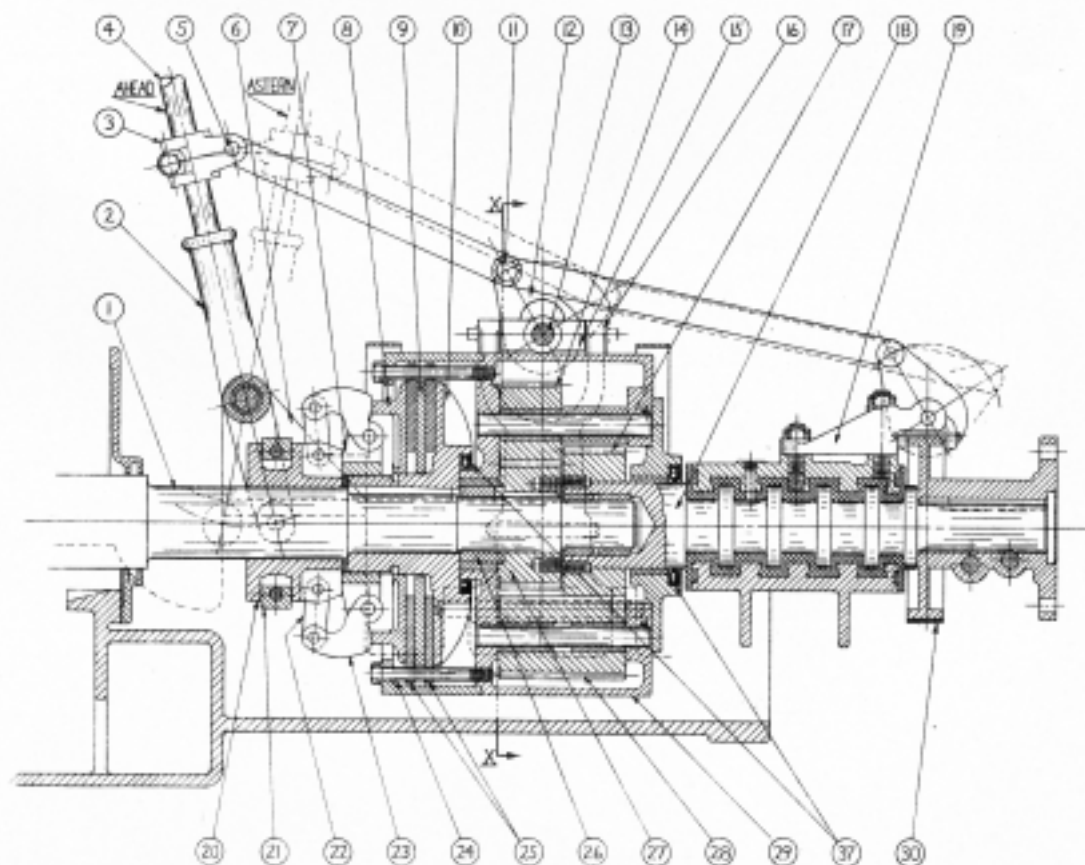
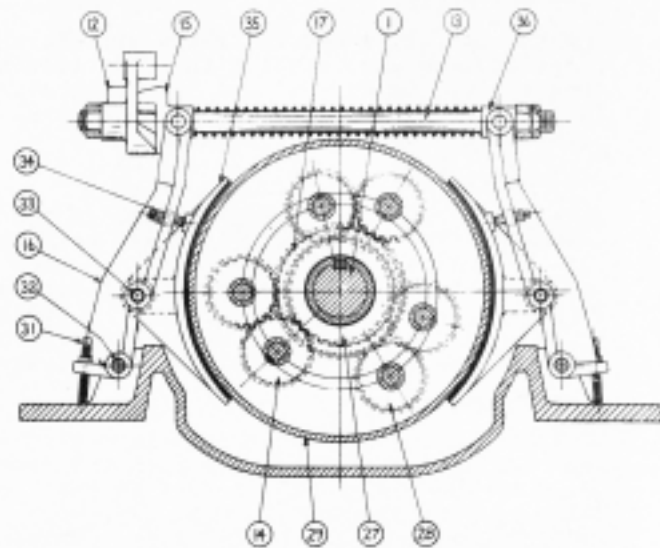
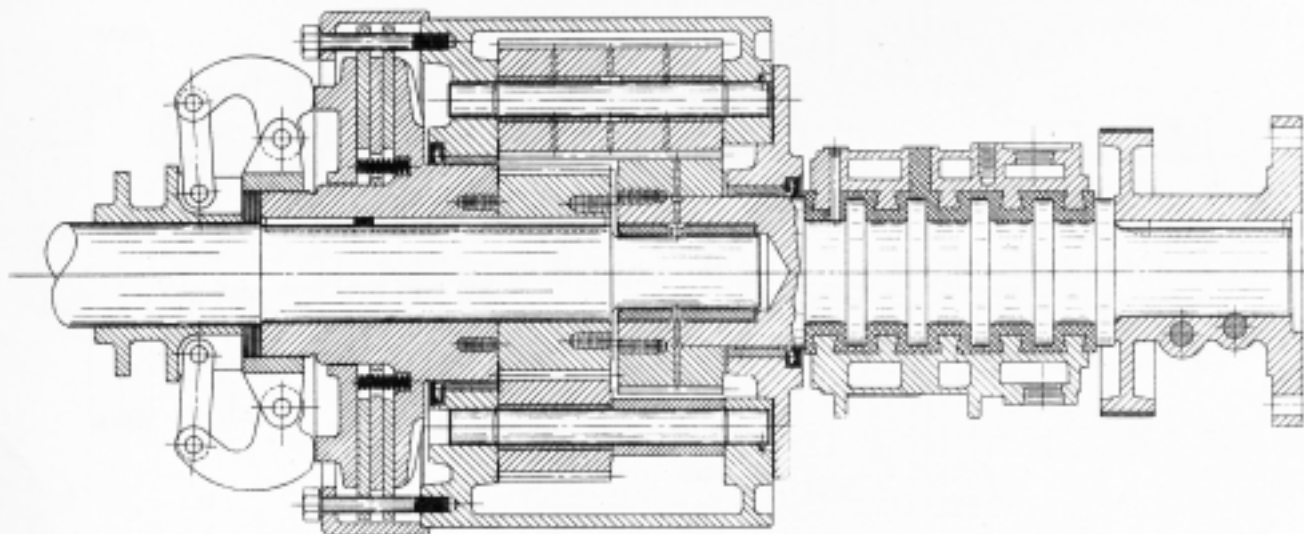
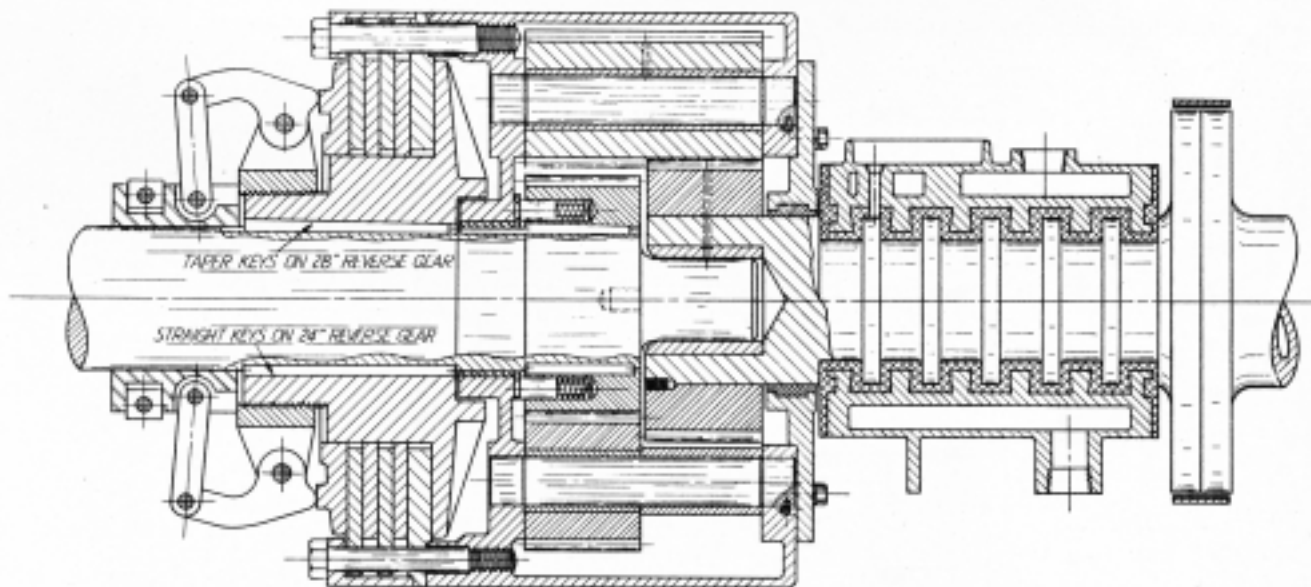

FIG. S-1
FIG. S-2
FIG. S-3
FIG. S-4
The gear is made up of a planetary transmission, a disc clutch, and two brakes, operating on the drum of the transmission and on the propeller shaft. The resulting drive permits complete control of the propeller shaft by means of the clutch control mechanism. Its operation is described under Paragraph 6. The reverse gear is closely associated with the thrust bearing, and both units are shown in the illustrations and included in the following description. The different size gears are quite similar in design and the description applies to all of them with the exception of certain differences that are mentioned in the text. Fig. S-1 and Fig. S-2 show longitudinal and transverse sections through the 14" gear, Fig. S-3 illustrates the design of the 19" and 21" gears and Fig. S-4 the 24" and 28" gears. The
Referring to Fig. S-1, the planetary transmission is housed in a rotating drum (29). It consists of two shaft gears (17) and (27), mounted side by side on adjacent ends of crankshaft (1) and thrust shaft (18), and interconnected by three pairs of "planet" gears, (14) and (28). These planet gears rotate on bronze bushings on pins mounted in drum (29). The long planet gears (28) extend across the faces of both of the shaft gears, meshing with the larger thrust shaft gear (17) and clearing the smaller crankshaft gear (27). The short planet gears (14) are in line with the crankshaft gear and the extension of the long planet gears, meshing with both of these gears and completing the gear train between the two shafts. Fig. S-2 shows a section taken through the planetary transmission at XX in Fig. S-1 and illustrates the planet gear mounting. The above general description applies to all of the different size gears, but there are a number of minor differences in design, the most important of which are as follows:
bearing. The construction differences may be clearly seen by a comparison of Fig. S-1, Fig. S-3 and Fig. S-4.
The 24" and 28" gears are provided with thrust rings, shown in Fig. S-4. Four springs acting on this ring push the drum forward when the clutch is disengaged, holding the clutch plates free so that they do not drag. In the 19" and 21" gears similar springs shown in Fig. S-3, work between the plates to hold them apart. No springs are used in the 14" gear. These springs should be replaced when overhauling if they are broken.
The plate clutch acts between the crankshaft and the planetary transmission drum. Referring to Fig. S-1 the clutch driving hub (10) is keyed and pressed on the after end of the crankshaft, just forward of the crankshaft drive gear. Crowder collar (7) is screwed and clamped to the end of the clutch driving hub and a square hub on the latter engages the driving plates (8) and (9). The driven plates (25) are connected to transmission drum (29) by capscrews (24) which engage holes in the plates and also retain the clutch cover to the drum. Four floating clutch plates - two drive and two driven - are used on the 14", 19", and 21" gears, and five are used on the 24" and 28" gears. (On earlier engines only three floating plates were used on the large gears.)
The clutch is engaged or disengaged by means of shifter cone (20) (See Fig. S-1) which slides fore and aft on the crankshaft and to which links operating the crowd-ers (23) are pinned. When the clutch is engaged the cone is aft, bearing against crowder collar (7). In this position the center line of links (22) are inclined slightly forward. In other words the pins connecting the links to the cone have been moved in past center, so that the crowding force tends to hold the cone aft,
The brake controlling the planetary transmission drum consists of two shoes (35) (See Fig. S-2) which float on pins (33) on each side of the drum. The pins are carried by brake posts (16), which are supported at the bottom on fulcrum pins (32) extending through lugs on the engine base. Blocks, (15) & (36) swiveled in the tops of the posts are tied together by means of tie rod (13). Swivel block (15) is cam shaped and bears against a mating cam or crowder (12), which is rotated by means of a link connecting to the clutch operating lever. As the crowder is rotated it climbs up on the cam, shortening the tie rod and pressing the brake shoes in against the drum, applying the brake. The foregoing applies to all of the brakes except that on the 24" reverse gear, in which a sliding wedge mechanism is used for the crowder in place of the rotating cam. On the 28" gear two rotating crowder cams are used, one on each side, operated from levers on the handwheel jack shaft.
A brake band (30) (See Fig. S-1) is used for the propeller shaft brake, wrapped around the drum on the shaft coupling. It is supported by a bracket (19) bolted to the top of the thrust bearing cap, and is operated by a link from the gear drum brake mechanism. A rotating crowder cam is used on most of the designs, but in some cases a sliding wedge is used. In either construction the cam or wedge design is such that the brake is applied and released at the desired points in the operating cycle. Instructions for adjusting and servicing the brakes are given in Paragraph 9 (c).
- (g) Remove the capscrews holding the clutch cover to the drum and remove the drum. NOTE: On the 19" and 21" gears only, the drum can be removed without resorting to Step (f). (See Fig. S-3.) On the 14", 24" and 28" gears however, the crankshaft gear must be pulled before removing the drum.
On the 14" and 28" gear where the clutch hubs and crankshaft gears are held by taper keys (and also on some of the older designs where taper keys were formerly used), new keys must be fitted if the parts are replaced. The keys must be fitted individually, pressing each piece on the shaft in turn, fitting its key, removing it, and then proceeding with the next piece. On the 14" gear, clutch hub (10) (See Fig. S-1) must be pressed on the shaft without shifter cone (20) being in place. The taper key is driven in and marked at the end of the hub. The hub is then pulled and the key cut off where marked. The crankshaft gear is then pressed on to its final location, allowing exactly the correct space behind it for the clutch hub and spacer (26). The key is fitted and driven in and the end marked, leaving sufficient projection to engage the notch in the end of the spacer. The parts may then be finally assembled on the shaft, pressing the clutch hub and gear home on their respective keys. The end of the key for the clutch hub must be securely blocked to prevent its backing away as the hub is pressed against it. Substantially the same procedure is followed on the 28" gear, the difference being that spacer (26) is not used. (See Fig. S-4.) The key for the gear is allowed to extend along the shaft to the clutch hub, and the extension is filed down to the contour of the shaft. This is necessary to prevent oil leakage along the shaft. The keys must be fitted for each part individually prior to the final assembly, as described above for the 14" gear.
If the drum brake is kept properly adjusted the lining will give long service, but if the adjustment is neglected it may be ruined very quickly. The adjustment is practically the same for all of the different size gears and is described below for the 14" gear. (See Fig. S-2.) Adjusting screws (31) should be set to allow clearance between the drum and the center of the brake shoes equal to approximately 1/32" on the 14" drum and up to 1/16" on the 28" drum. Adjusting nuts (34) should then be set to equalize the clearance at top and bottom of the shoe. If this adjustment is neglected the shoes will drag on the drum and wear the lining unevenly. The adjusting nuts on the tie rod determine the force that is applied to the brake shoe, and should not be set any tighter than is necessary to stop the drum when the gear is in reverse.
Referring to Fig. S-1 clamp (3) securing the brake operating link to the clutch control lever is adjustable on the lever, and should be set so that the brakes take up at the proper time in the control cycle. Use care however that this clamp is not raised so high on the lever that the linkage will buckle, that is so that pin (11) will drop down into line with pins (5) and (13) and will then be forced down rather than up when the clutch is thrown out. If this occurs the mechanism will jam and it will be impossible to release the clutch. This condition will be approached gradually as the plates wear, and if not watched for may occur when least expected.